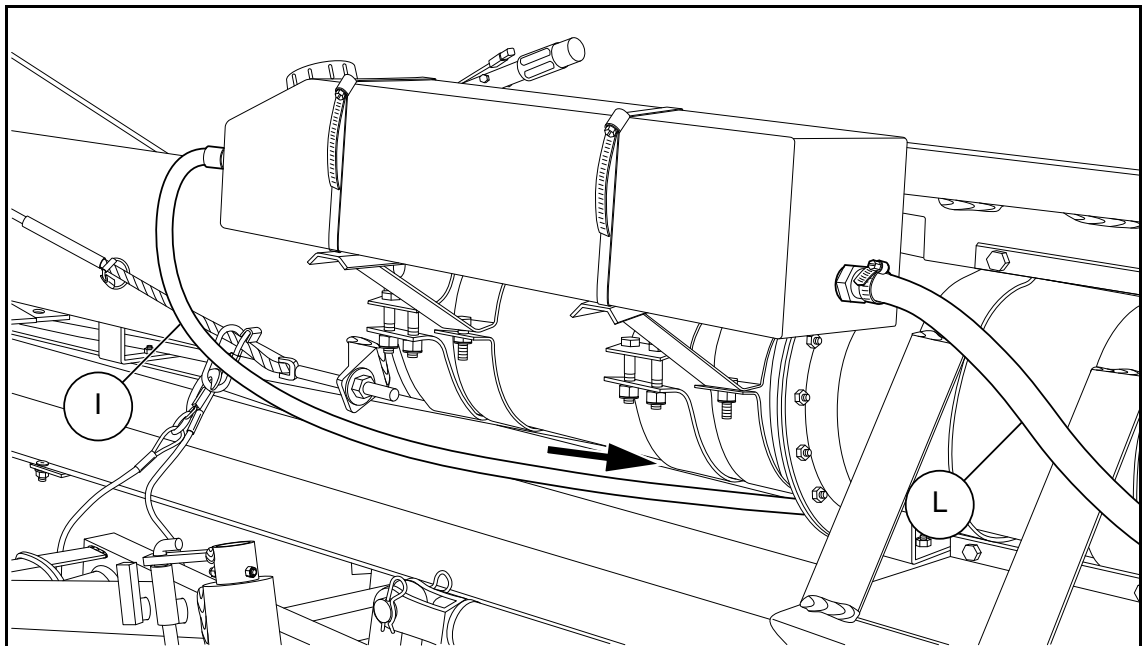

Figure 3.25 Oil Tank
11. Attach hose I and L to the oil tank (see Figure 3.25). Pass hose I under the tube toward the spool valve. Attach the other end of hose L to the inlet port of the hydraulic pump.